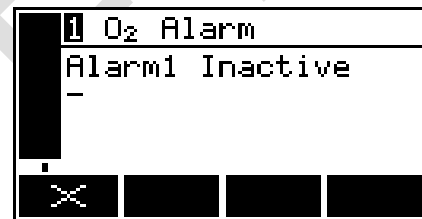

Figure 61 – The alarm status screen
1. On the measurement screen, press the  soft key; the alarm option screen (Figure 61) will then be displayed.
2. In the alarm status screen shown in Figure 61, both measurement alarms are shown as 'Inactive'; that is, either the mode of each alarm is set to 'None', or no alarm condition currently exists.